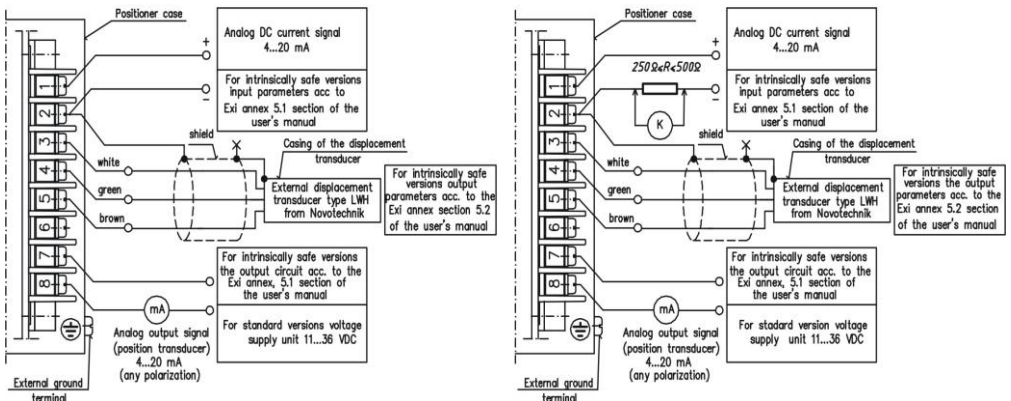

Fig.19c Wiring of positioner for the executions with an external displacement transducer if:
- If the shield of the cable of potentiometer is connected galvanically to potentiometer's case (Fig. 19c) then the potentiometers case should not be grounded (in order to disrupt current loop).